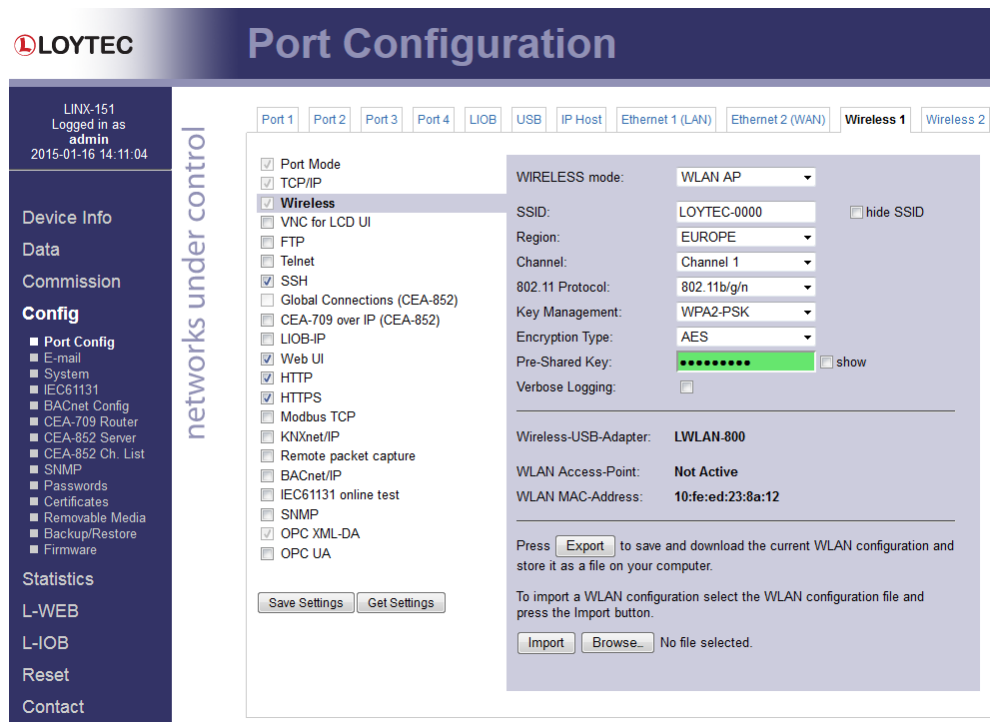

Figure 69: WLAN Access Point Settings
**Access Point Mode.** An access point has the settings shown in Figure 69.